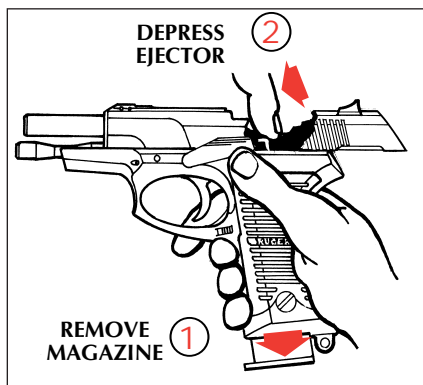

FIGURE 1
3. Keep upward pressure on slide stop to prevent forward movement of slide. Open slide is under strong spring tension and could injure fingers if allowed to slam shut. Insert finger through top of slide and push ejector downward and forward (see Figure 1, p. 16) until it locks in its lower position. This will permit forward movement of slide. Further disassembly is impossible unless this is done.